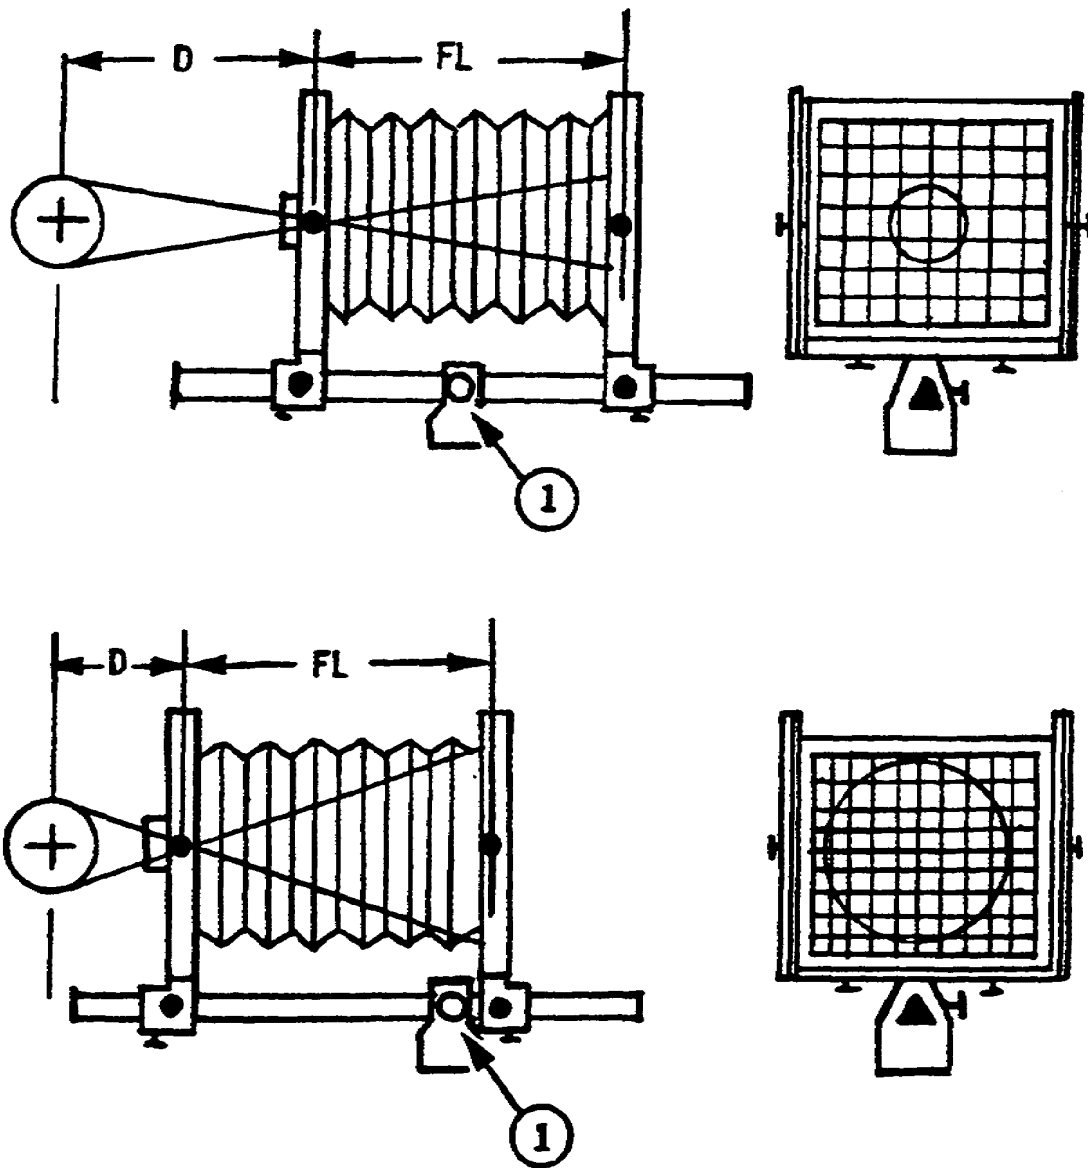

Figure 1-36. Changing Image Size.
(2) After approximate focus has been obtained, slight changes in the image size on the ground glass may be obtained by moving the monorail bed with respect to the panhead, as follows:
(a) Loosen the camera mount lock ① (fig 1-36) and turn the camera mount adjust knob.
NOTE: Since the front and rear carriages are secured to the monorail bed, the distance between the front and rear carriage is not changed by the rotating camera mount adjust knob. In fig 1-36, D is the subject to camera distance and FL is the camera focal length.